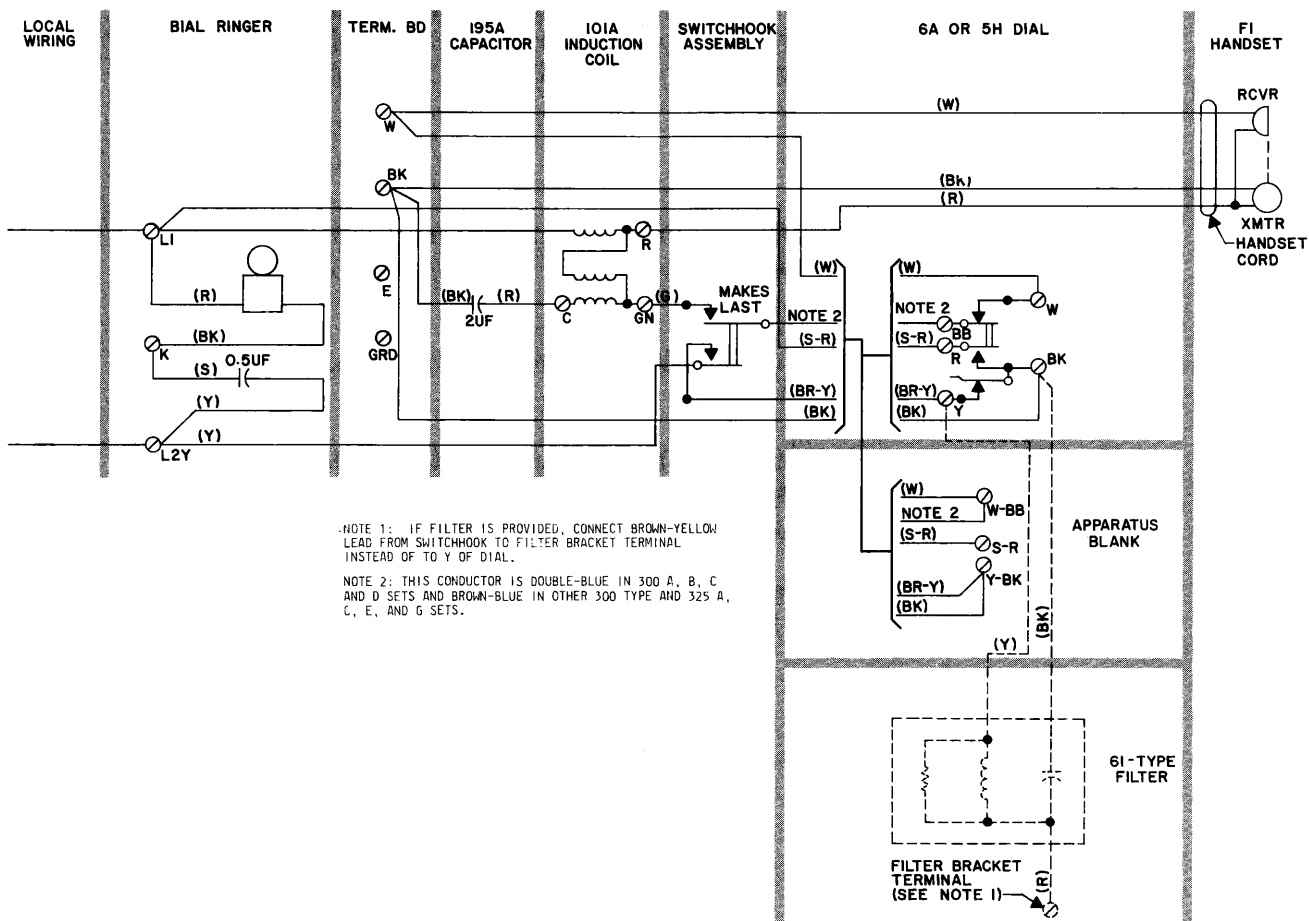

Fig. 1 – Circuit Diagram for 300 and 325 (A, C, E, and G) Telephone Sets
- 2.02 Connections for the 300 and 325 (A, C, E, and G) telephone sets are shown in Table A and Fig. 1.